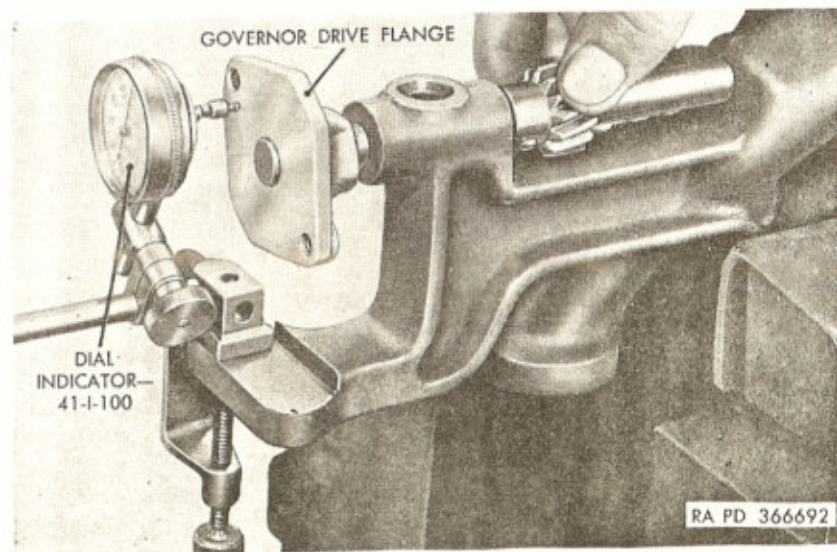

Figure 96. Checking governor drive flange run-out.
- (1) Inspect pump body (F) for cracks or other damage. Check for looseness of drive shaft (J) in body.
- (2) Examine pump cover (B) for wear caused by pump rotor (C).
- (3) Check pump rotor (C) and rotor internal gear (D) for wear or damage.
- (4) Examine pump driven gear (H) for wear or broken teeth. If worn or damaged, replace driven gear (par. 94).
- (5) Mount pump body (F) in vise and install dial indicator—41-I-100 on body (fig. 96). Set dial indicator pin against machined face of drive flange just inside the tapped holes. Turn shaft and check runout of drive flange. If runout exceeds 0.002-inch total indicator reading, replace drive flange.
- (6) Inspect governor body (M) and secondary weight bushing for wear. Check primary and secondary plungers for sticking condition or for looseness which indicates excessive wear.